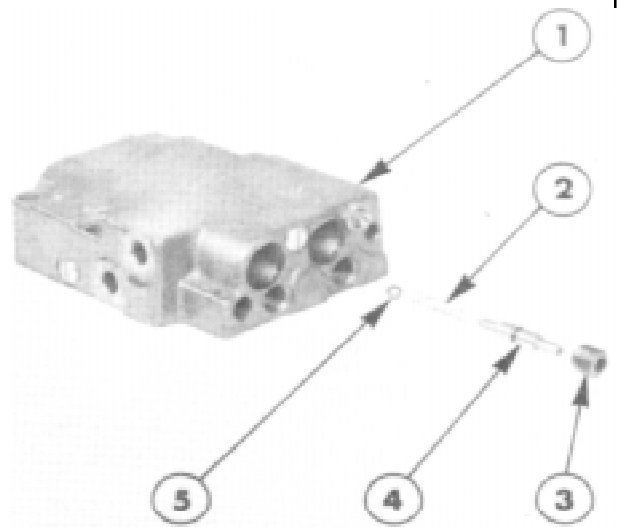

Figure 13
1. Remove the check valve retaining set screw and withdraw the plug, spring and ball, Figure 13.